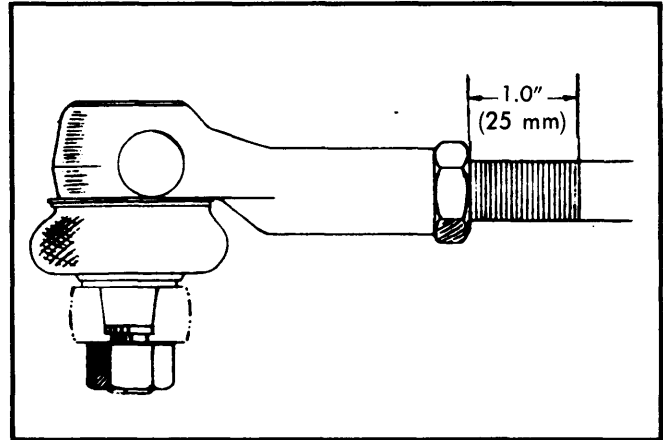

Fig. 1 View Showing Tie Rod Length Measurement
**NOTE** – After adjustment of toe-in, measurement "A" (Fig. 1) of tie rod must not exceed 1.0" (25 mm) or 1.02" (26 mm) for power steering models. For tie rods opposite each other, the difference between measurements "A" must not exceed .08" (2 mm).